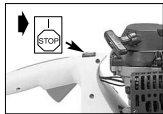

Fig. 3A
3. Move ignition switch to the "RUN (I)" position (Fig. 3A).